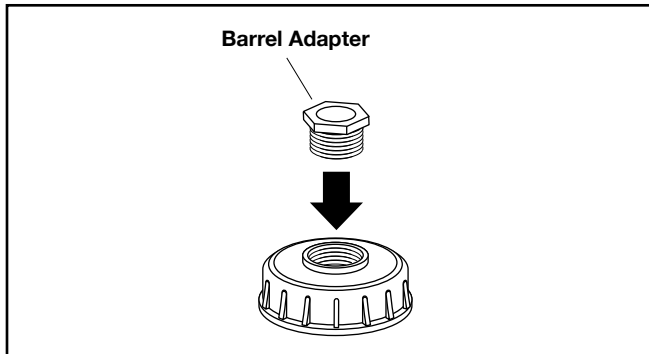

Figure 2: Installing the Barrel Adapter
2. Thread the barrel adapter carefully into the cap (see Figure 2).